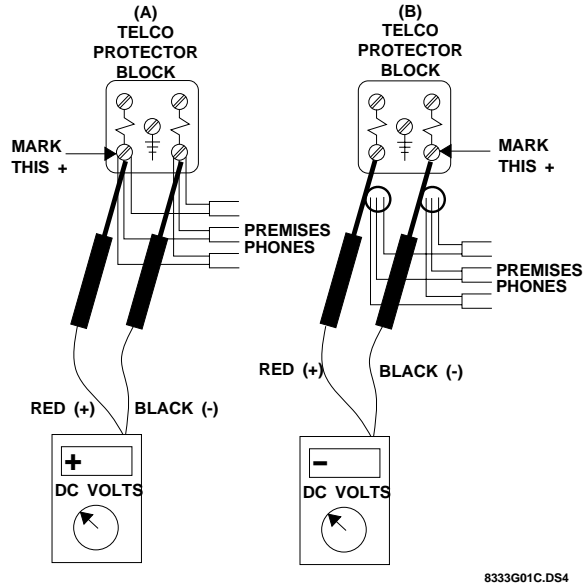

Figure 14. Checking Phone Line Polarity
- 3) Mark the positive terminal on the Telco block (see Figure 14).
If the voltmeter displays a positive voltage, the positive terminal is connected to the positive lead of the voltmeter. Mark that terminal positive (+), (see A in Figure 14).
or— If the voltmeter displays a negative voltage, the positive terminal is connected to the negative lead of the voltmeter. Mark that terminal positive (+), (see B in Figure 14).